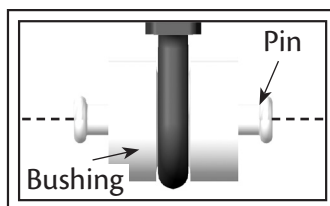

Fig. 7a
9. Be sure that the pin is centered in the rubber bushing (see Fig. 7a).